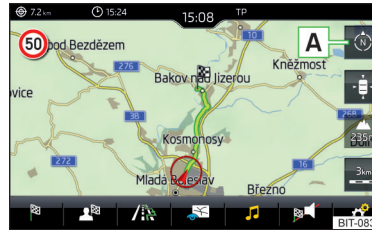

Fig. 230
▶ to **Change the map orientation** From the main menu *navigation* the functional surface **A** » Fig. 230.